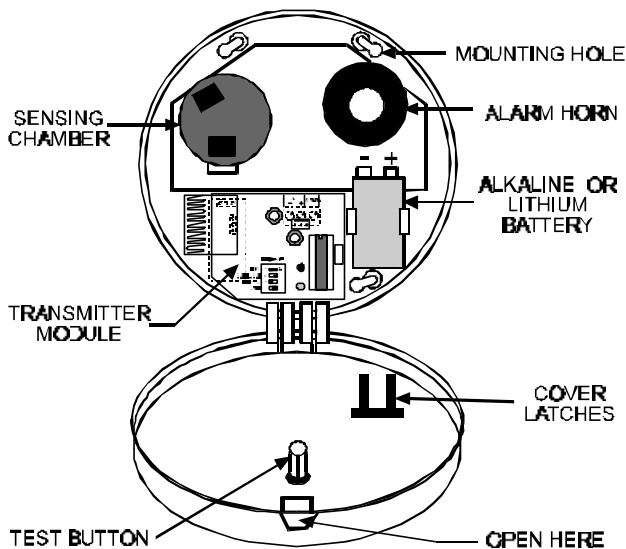

Figure 2. MCT-423 with Cover Swung Open
- B. Open the MCT-423 by pulling the cover away from the base at the point indicated by "OPEN HERE" in Figure 2.